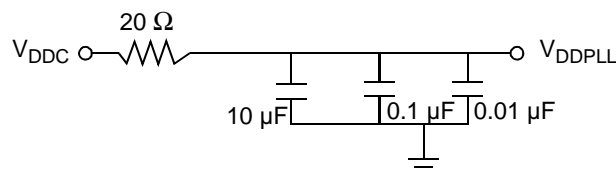

Figure 31. PLL Power Supply Filter Circuits
- PLL power supply filtering.** The MSC7116 V_{DDPLL} power signal provides power to the clock generation PLL. To ensure stability of the internal clock, the power supplied to this pin should be filtered with capacitors that have low and high frequency filtering characteristics. V_{DDPLL} can be connected to V_{DDC} through a 20Ω resistor. V_{SSPLL} can be tied directly to the GND plane. A circuit similar to the one shown in **Figure 31** is recommended. The PLL loop filter should be placed as closely as possible to the V_{DDPLL} pin (which are located on the outside edge of the silicon package) to minimize noise coupled from nearby circuits. The $0.01 \mu\text{F}$ capacitor should be closest to V_{DDPLL} , followed by the $0.1 \mu\text{F}$ capacitor, the $10 \mu\text{F}$ capacitor, and finally the $20\text{-}\Omega$ resistor to V_{DDC} . These traces should be kept short.